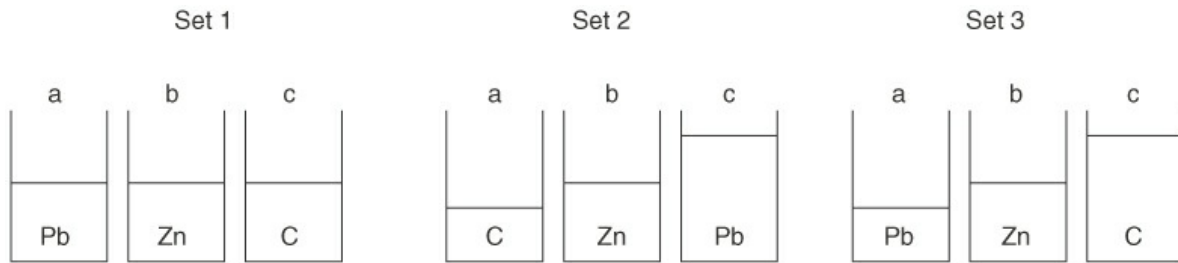

Figure P2.6.17
2.6.17 Which of the three sets of containers in Figure P2.6.17 represents respectively 1 mol of lead (Pb), 1 mol of zinc (Zn), and 1 mol of carbon (C)?